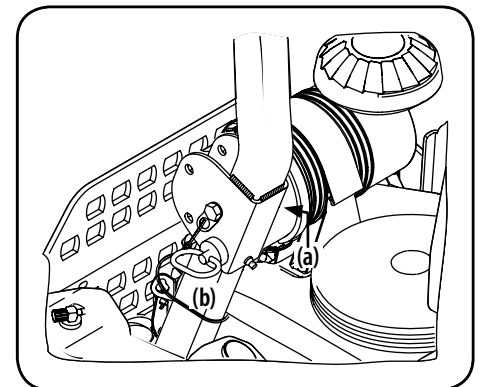

Figure 2-3
1. Remove the cotter pin (a) from the locking pin (b), slide the locking pin (b) out of the ROPS on the left and right side of the ROPS. See Figure 2-3.
2. Move the upper ROPS section to the fully upright position, insert the locking pins (b) and secure in place with the cotter pins (b). See Figure 2-3.